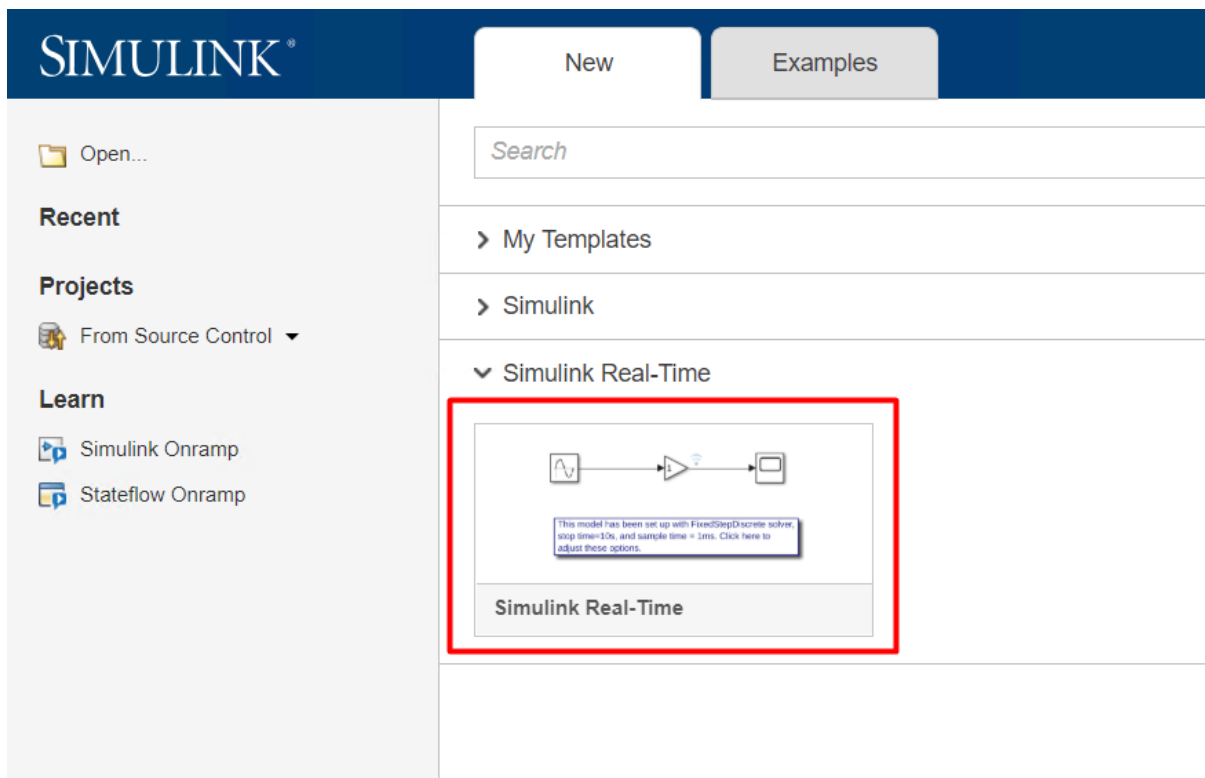

Figure 13.103: Create a Simulink model.
2. (Figure 13.103) Create a new Simulink model using the blank model template.